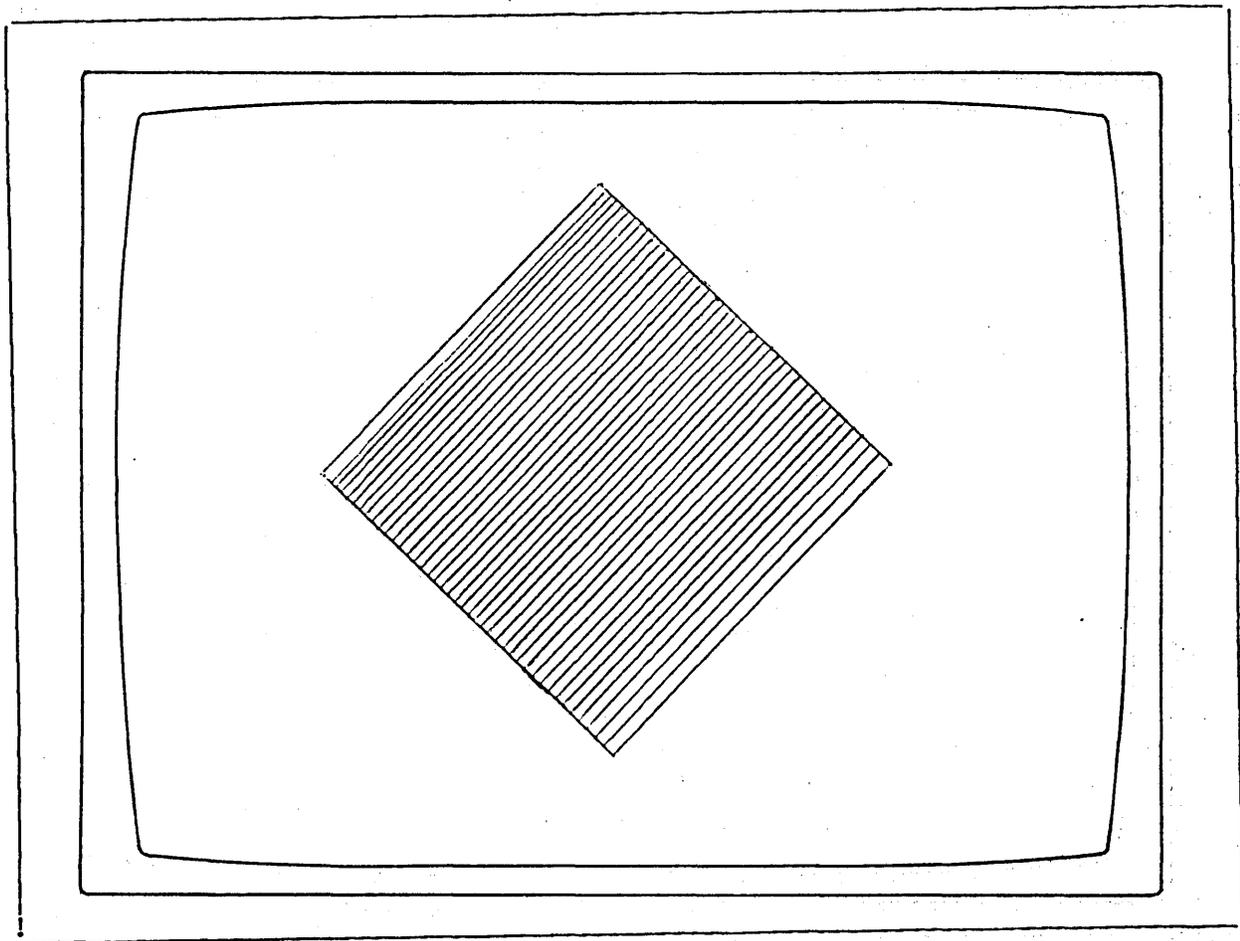

Figure 3.2b Polygon in Full-screen Clipping Window
4. Draw the same polygon (see Figures 3.2b, and 3.2c).